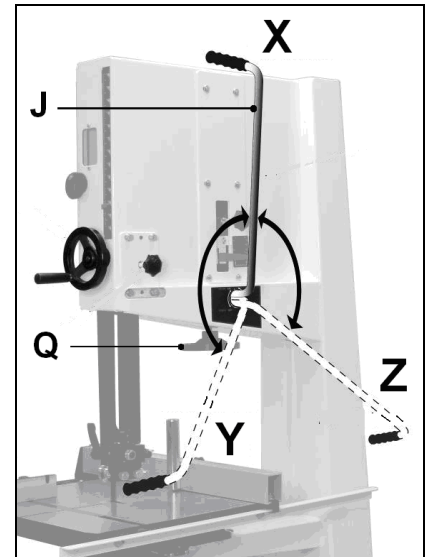

Fig 10
Place the quick blade tension lever (J, Fig 10) in the Full-Tension position (X).